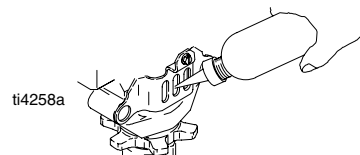

Fig. 12
8. Fig. 12. Fill packing nut with Graco TSL until fluid flows onto top of seal.